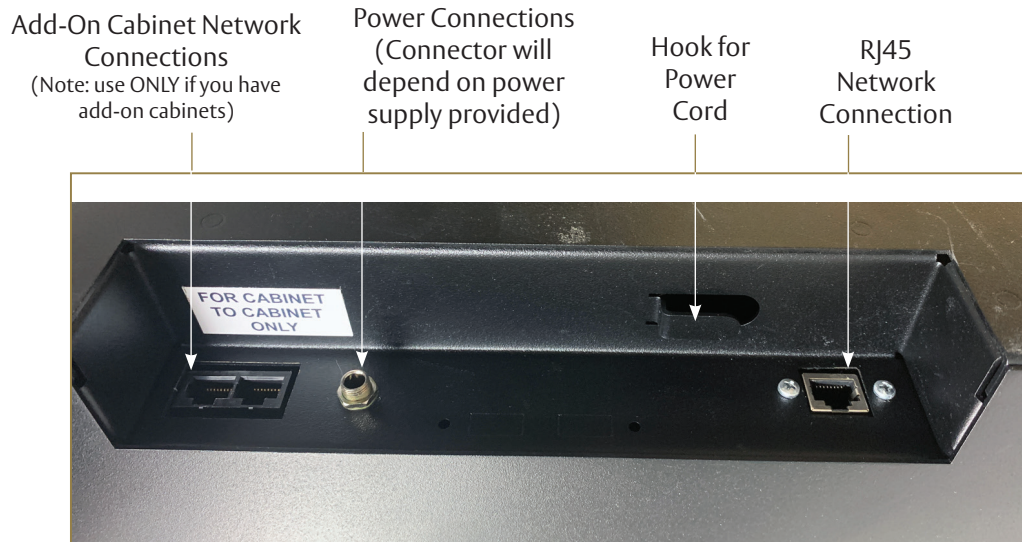

Figure 10: External Connections, Bottom Center of the Rear Panel of the Cabinet
- 1) To connect your key system to your network, connect the provided Ethernet cable to a live data port on your network, then to the stand alone, recessed RJ45 connection on the left side of the node bracket at the rear, bottom of each controlling cabinet (figure 10). Medeco recommends your IT department configure the system to have Static IP information prior to setting your IP Address Setting. To configure your system IP Address Setting for accessing the Elite Web Admin application please follow the steps below:
NOTE: Route the power cable along the node bracket and secure in order to protect the barrel connector from being disconnected (figure 10).